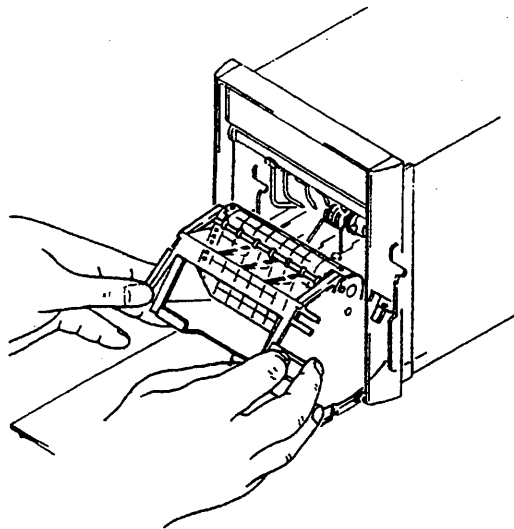
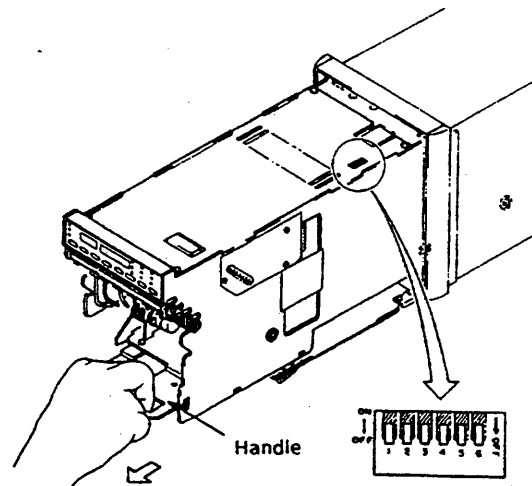

Figure 5.13 Remove the Compartment
Figure 5.15
- ① DIP switch to change the frequency and other set modes.
- ② Pen offset compensation function ON/OFF (with/PS option) sets pen offset compensation ON/OFF.
- 1 Pull out the internal instrument. Then the DIP switch appears on the top of the internal instrument (see Figure 5.15).
- (1) Open the front door and turn the POWER switch "OFF".
- (2) Remove the chart paper compartment (see Figure 5.13).
- (4) Pull out the internal instrument. Then the DIP switch appears on the top of the internal instrument (see Figure 5.15). (To pull out the internal assembly, be sure to use the internal assembly handle as shown in Figure 5.15)